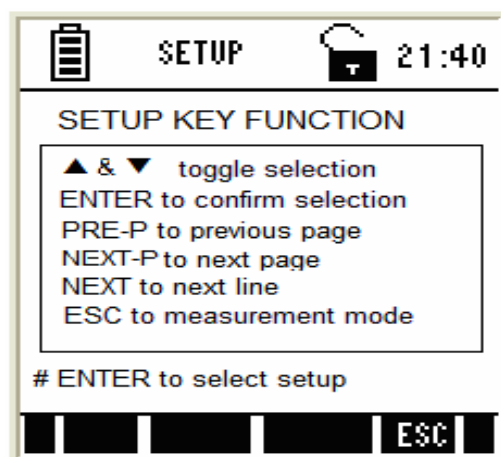

Figure 65: Setup Key Function screen
7. When the correct password is entered, the Setup Key Function Screen appears. (Figure 65)